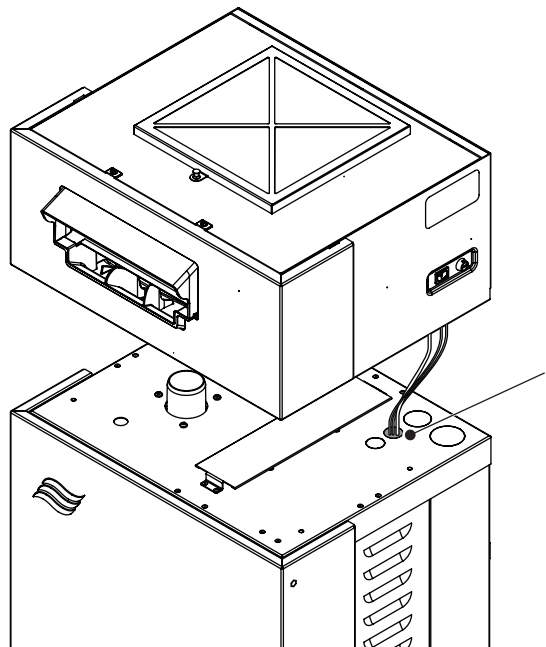

Figure 18: Routing Cables
- b. Install the grommet (supplied) in the knockout hole that is located directly below the blower pack power connector, and route the cables through the grommet. Refer to Figure 18.